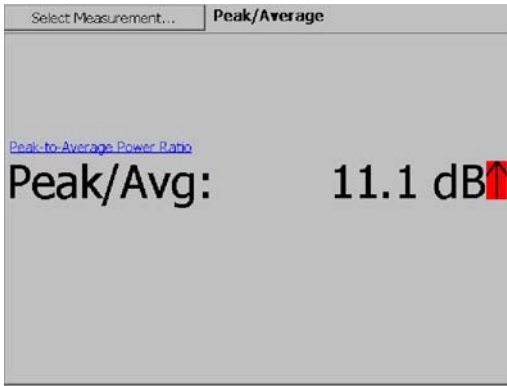

Figure 3-43: A typical Peak to Average Power Ratio display
3. Tap **Peak/Average**. See Figure 3-43.